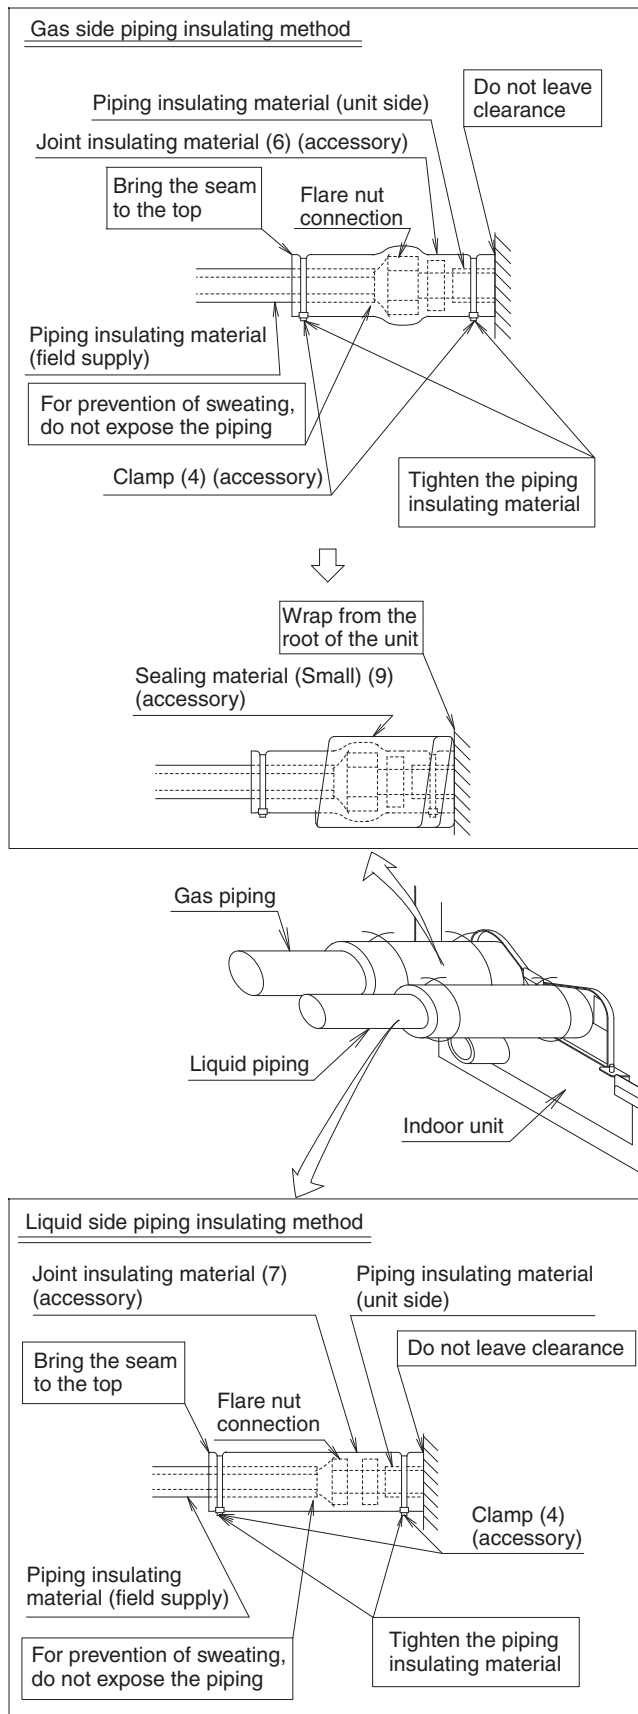

Fig. 15
- After leak test, referring to **Fig. 15**, insulate both the gas and liquid piping connection with the attached joint insulating material (6) and (7) to prevent the piping from getting exposed. Then, tighten the both ends of insulating material with the clamp (4).
- Wrap the sealing material (Small) (9) around the joint insulating material (6) (flare nut section), only the gas piping side.
- Make sure to bring the seam of joint insulating material (6) and (7) to the top.